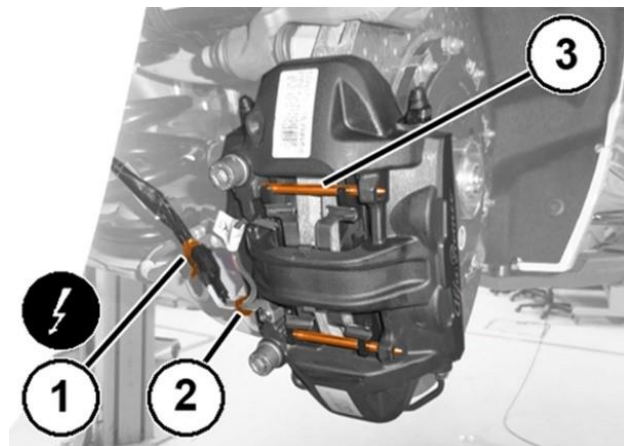

Figure 6 – Brake Caliper
23. Disconnect the brake pad wear indicator electric harness connection (1) (Figure 6).
24. Cut the tie strap and release the electrical harness from the support bracket (2) (Figure 6).
25. Using a suitable punch, retract and remove the pad retaining pins (3) (Figure 6).